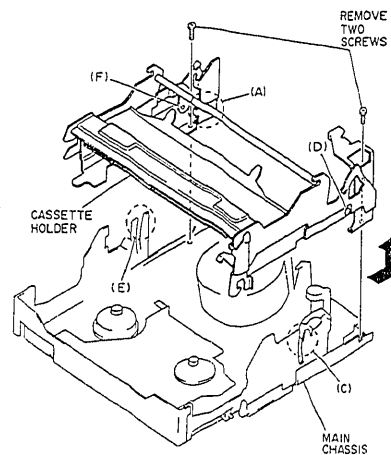

Fig. 2-34
- 1) Remove two (2) screws and remove the cassette holder in the direction of the arrow. (See Fig. 2-34)
Note: Take care of the following when reinstalling the cassette holder in the main chassis. (See Figs. 2-34, 2-35)